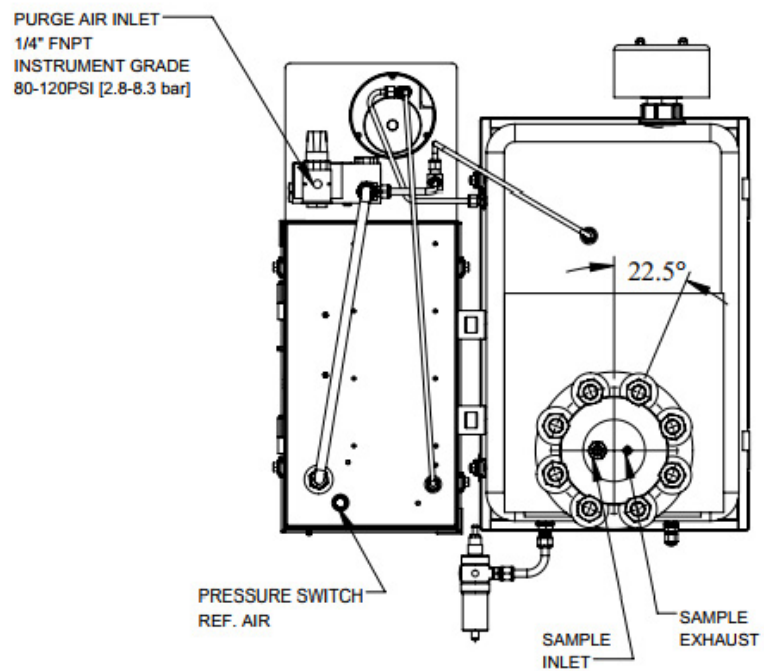

Figure 2-1.2.
- Figure 2-1.2 shows port locations on the rear of the analyzer.